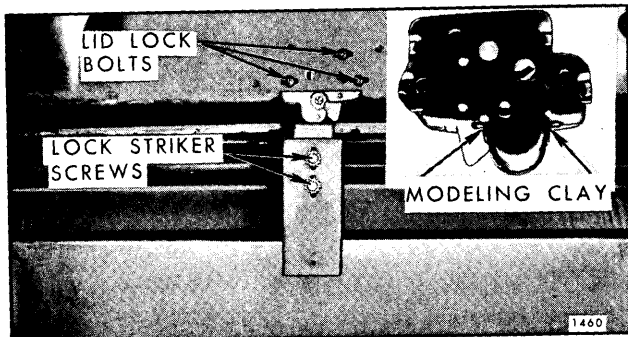

Fig. 8-29—Rear Compartment Lid Lock Assembly -
3. Remove rear compartment lid lock attaching bolts and remove lock from lid (Figs. 8-29 and 8-30).
2. Remove striker attaching screws and remove striker (Fig. 8-29 and 8-30).
1. Insert a small quantity of modeling clay on frame of lock at both sides of the lock bolt (Figs. 8-29 and 8-30). Close lid with moderate force.